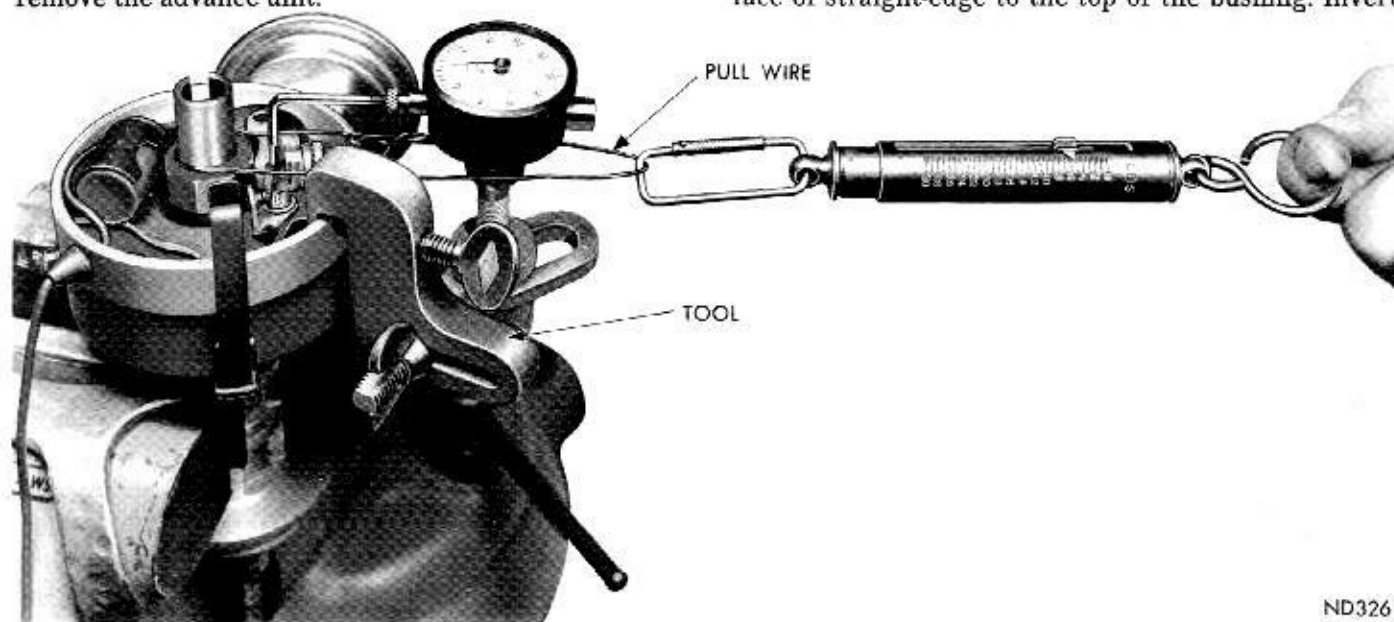

Fig. 5—Shaft and Bushing Wear Test
- (1) Remove distributor rotor.
- (2) Disconnect primary lead wire at distributor terminal. DO NOT LOOSEN inner nut that holds movable contact arm tension spring to terminal post.
- (3) Clamp the ribbed section of distributor housing lightly in a vise equipped with soft jaws and attach dial indicator to body of distributor with the indicator plunger arm resting against movable contact arm at the rubbing block and with the rubbing block of contact arm on the highest point of cam lobe (Fig. 5).
- (4) Place one end of a wire loop around the top of distributor shaft. Hook a spring scale in the other end of wire loop and pull on a line with the plunger of indicator gauge. Be sure wire loop on shaft end is down on the shaft to insure a straight pull and also that wire loop does not interfere with indicator or holding bracket. Apply a five pound pull and read the movement of plunger on indicator dial. (Be sure rubbing block of contact arm is on highest point of the cam lobe during this test.) If plunger movement exceeds .006 inch, replace bushings and/or distributor shaft, see "Distributor Disassembly."